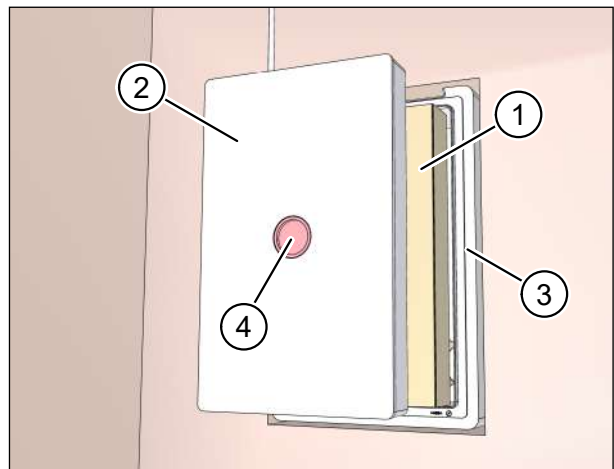

Fig. 20: Inserting the cardboard insert and plaster cover
- ▶ Insert the cardboard insert (item 1 in Fig. 20) into the wall box (item 3 in Fig. 20) as far as it will go.
- ▶ Insert the plaster cover (item 2 in Fig. 20) into the wall box (item 3 in Fig. 20) as far as it will go.
- ▶ Check that the red signal cover (item 4 in Fig. 20) is seated in the plaster cover.
- ▶ Check that the plaster cover (item 1 in Fig. 20 on page 26) is inserted before filling with foam.